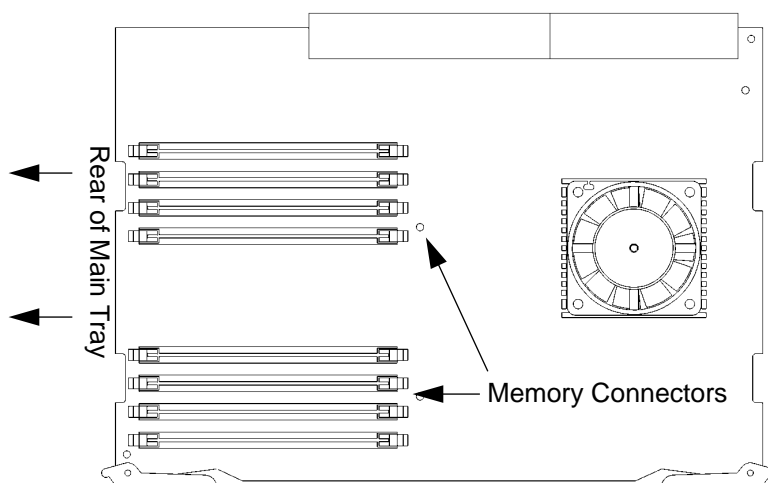

Figure 3 **Memory Module Location**
- 1 Locate the memory modules on the C100/C110 CPU board, as shown in Figure 3.